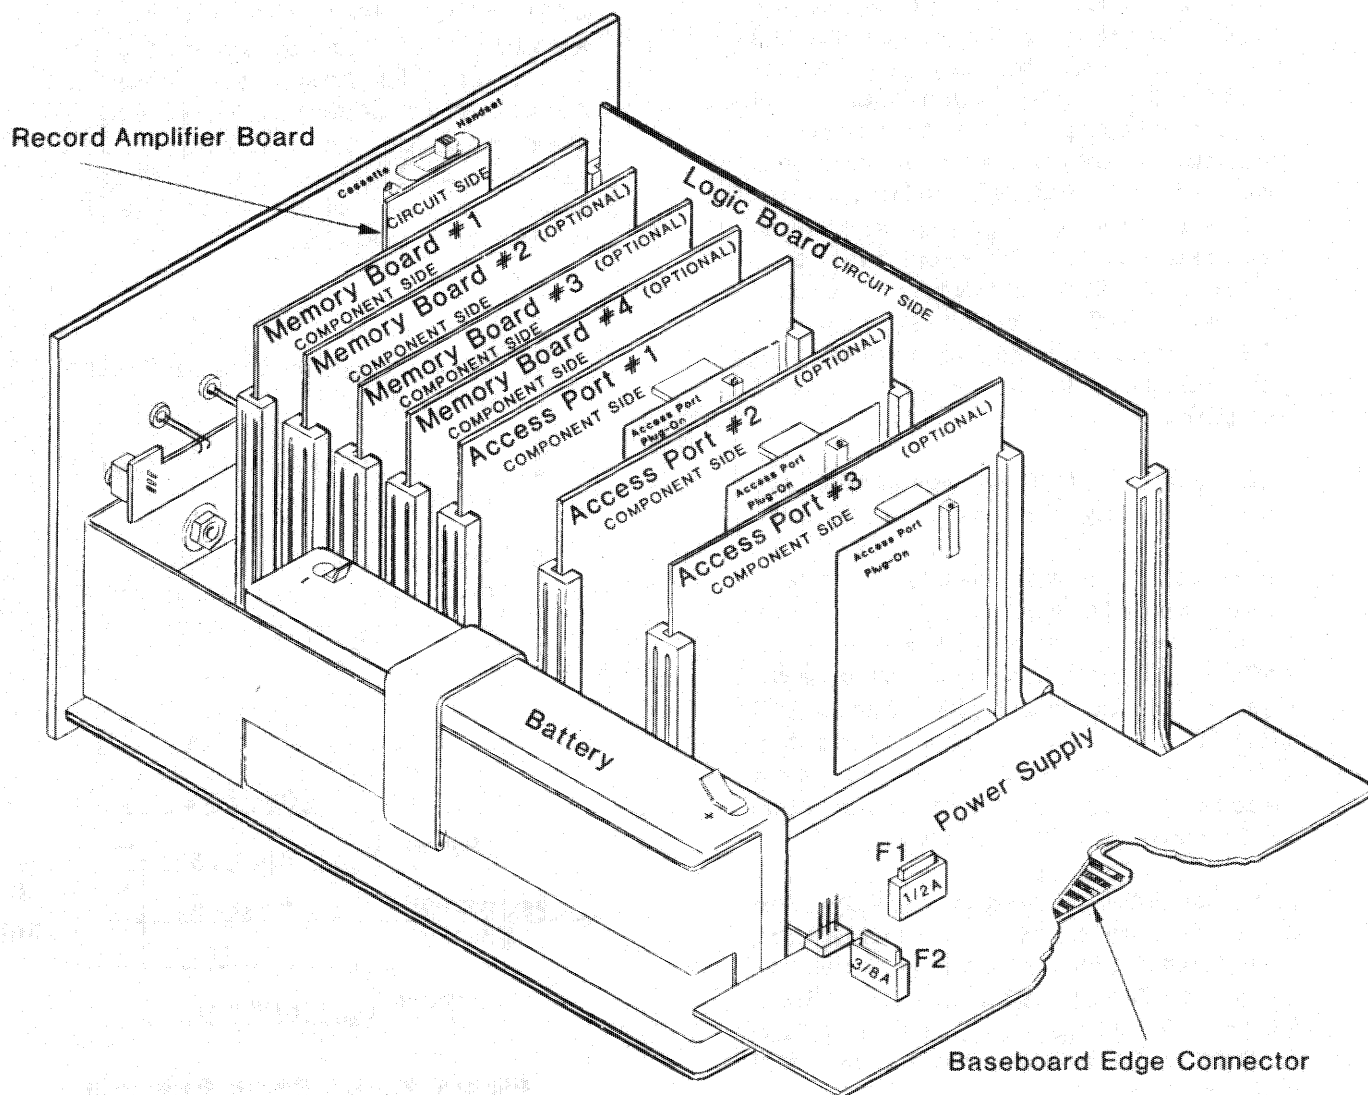

Figure 3. Internal Layout
5.03 The battery has been disconnected for shipment. Reconnect by plugging the battery connector onto the power supply. The plug may be inserted either way onto the three pin connector, however, ensure all three pins are mated correctly to prevent shorting the battery or damage to the power supply (Figure 3).
6.05 The Record Amp has a record gain adjust and a cassette/handset slide switch: (Refer to Figure 3.)
Each unit may be configured with a maximum of three Access Port cards and four Memory cards. Refer to Figure 8 for a functional diagram and Figure 3 for the physical layout.
Note: Ensure Handset/Cassette slide switch on Record Amplifier Board is in proper position before attempting a recording. (Refer to Figure 3).